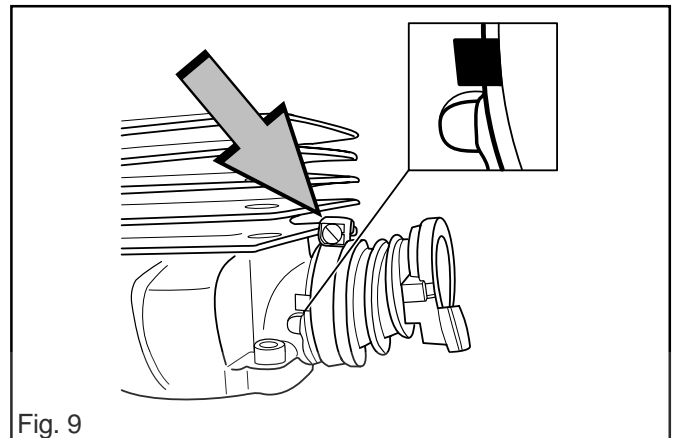

Fig. 9
3. Fit the intake manifold on the cylinder. The clamp bolt should be upwards. See fig.9.